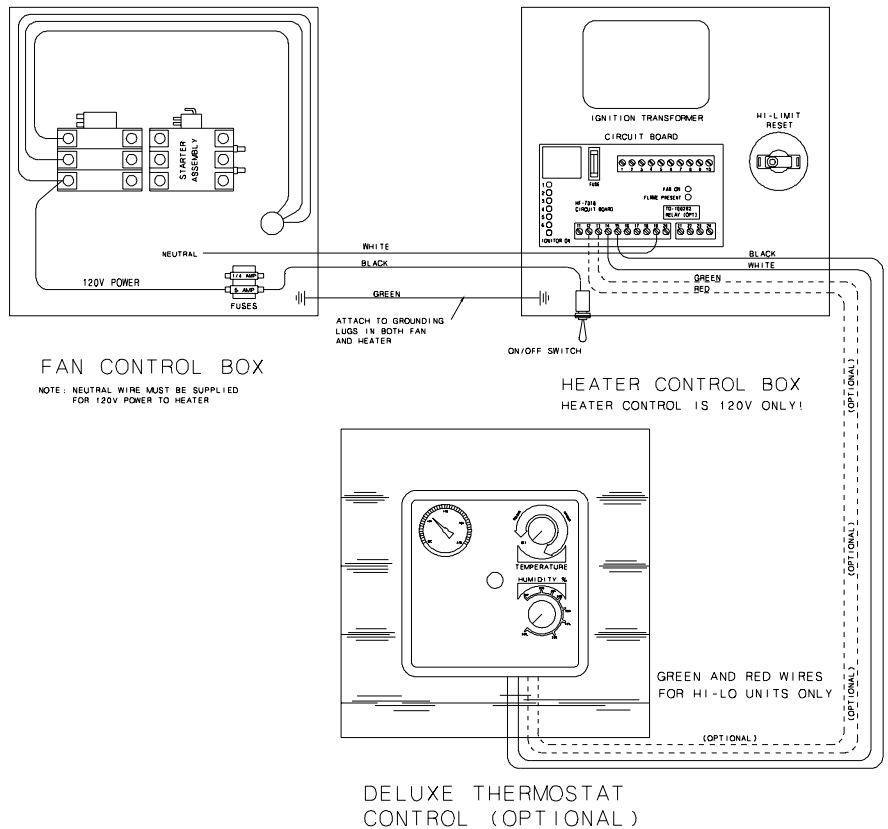

Figure 2: Deluxe vane axial heater wiring to fan unit.
2. Make field connection of wires in fan box as shown in Figure 2. 110V power supply or .5KVA 460V to 110V transformer must be used to supply power for heater. **IMPORTANT! HEATER MUST BE INTERLOCKED WITH FAN FOR SAFE OPERATION.**
3. Connect deluxe thermostat control (optional) as shown in Figure 2. **IMPORTANT! THERMOSTAT MUST BE INSTALLED FOR SAFE OPERATION.**